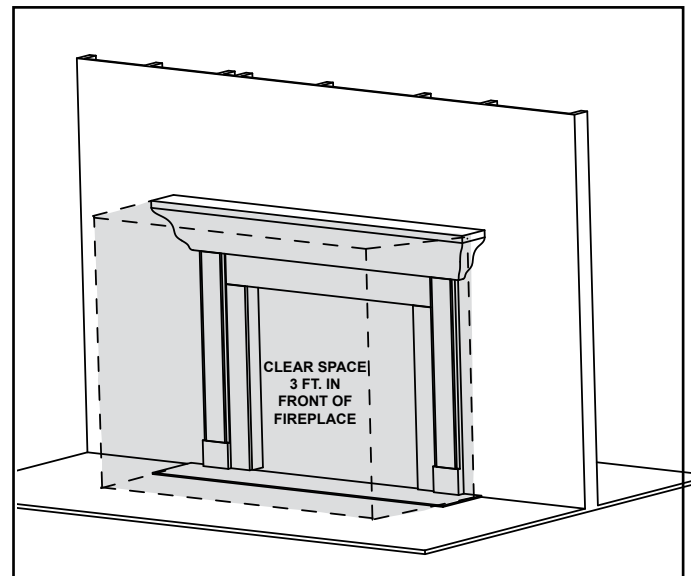

Figure 3.1 Clear Space
**WARNING! DO NOT place combustible objects in front of the fireplace. High temperatures could start a fire. See Figure 3.1.**